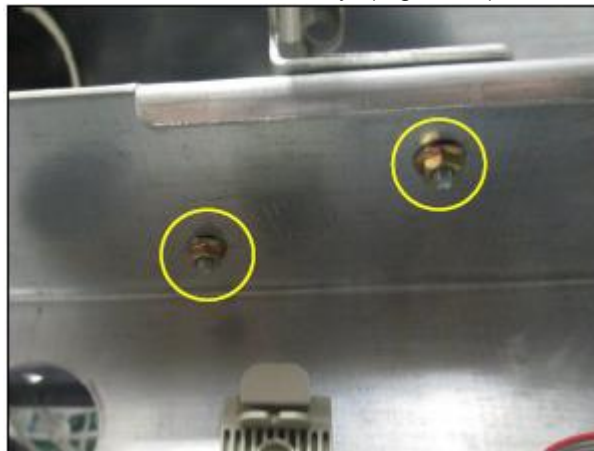

Fig 2.15d – Location of the CRIND Control Bracket nuts
- g. Remove and discard the three 9/32" nuts that are fastening the CRIND Control Bracket to the upper electronics rail in the electronics cavity. (Fig 2.15d)